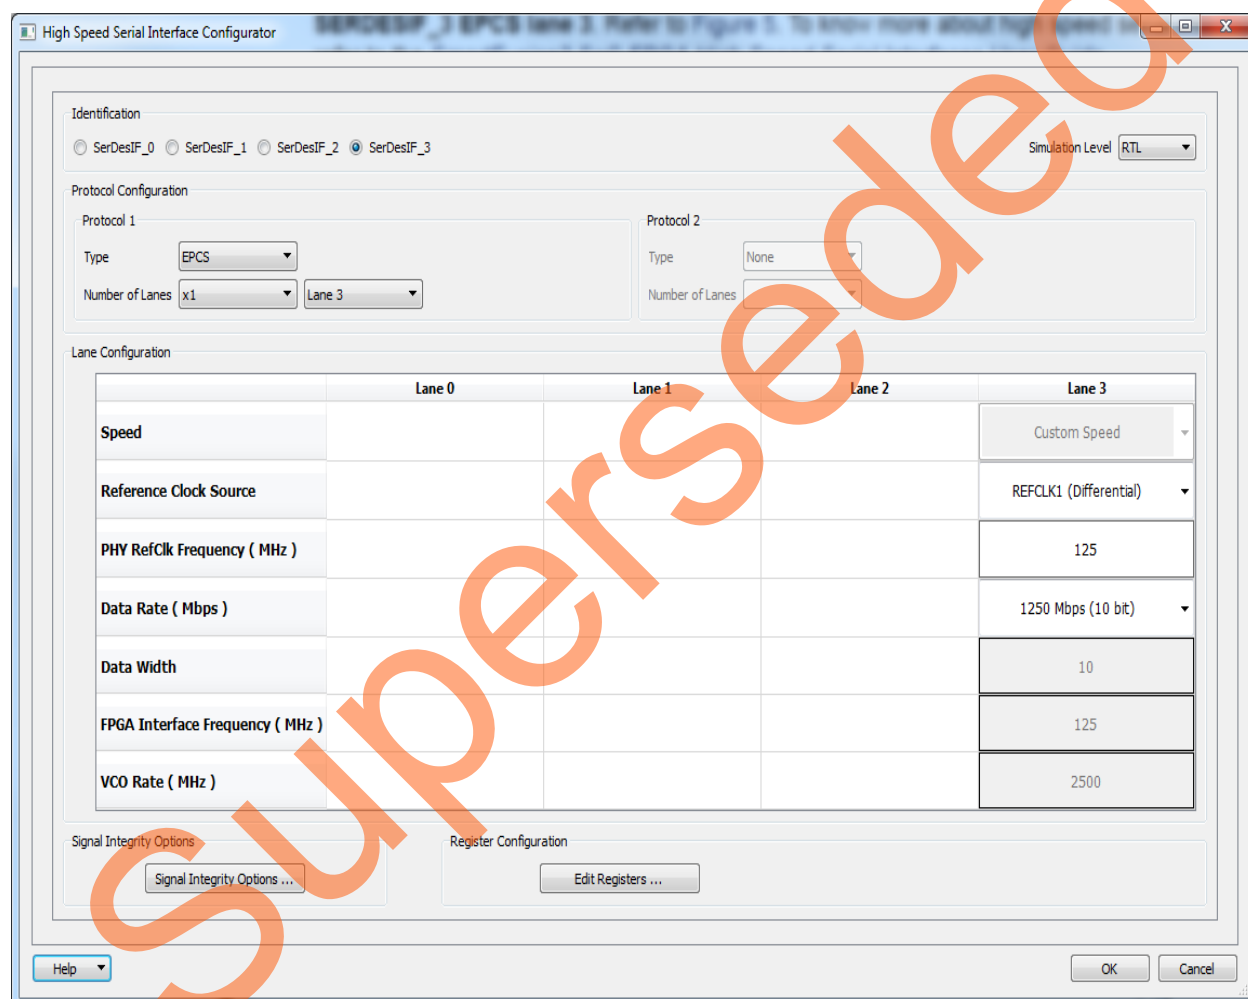

Figure 4 • High-Speed Serial Interface Configurator Window
6. **High speed serial interface (SERDESIF) SERDES_IF IP**: Configured for **SERDESIF_3 EPCS lane3** as shown in Figure 4.